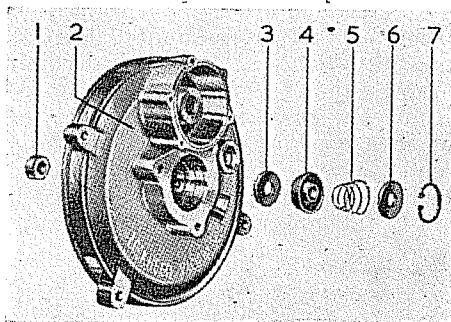

Fig. 31.
- (15) Remove the circlip (8) and stop washer (7).
- (16) Unscrew the valve piston body (6) and remove gasket (5).
- (17) Push out the valve piston (4) and remove seals (3).
- (18) Remove seal (1) from end cover (2).
- (19) Remove circlip (7) Figure 31, from the end cover (2) and withdraw stop washer (6) spring (5) cup (4) and washer (3).
- (20) Remove the end cover from the holding fixture, place upon two wooden blocks and drive out the oil seal (1) with a soft drift.
- (21) To assemble, reverse the foregoing procedure.